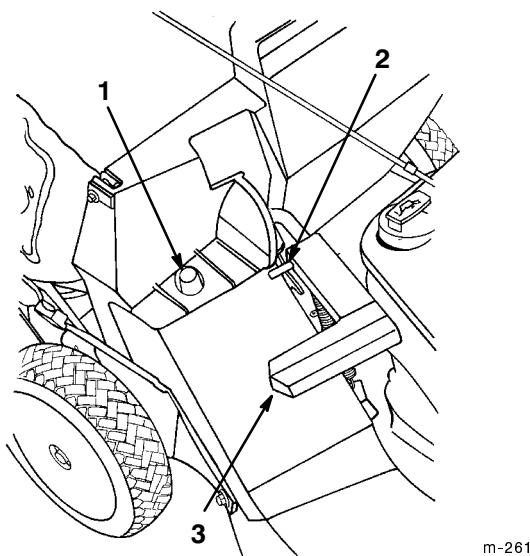

Figure 15
2. Ensure that the discharge door handle is fully forward and that the pin is engaged in the catch (Fig. 15).
3. Slide the hole in the bag frame onto the retaining post on the discharge tunnel (Fig. 15).
2. Raise the discharge door handle and move it forward to engage the pin with the catch (Fig. 15).